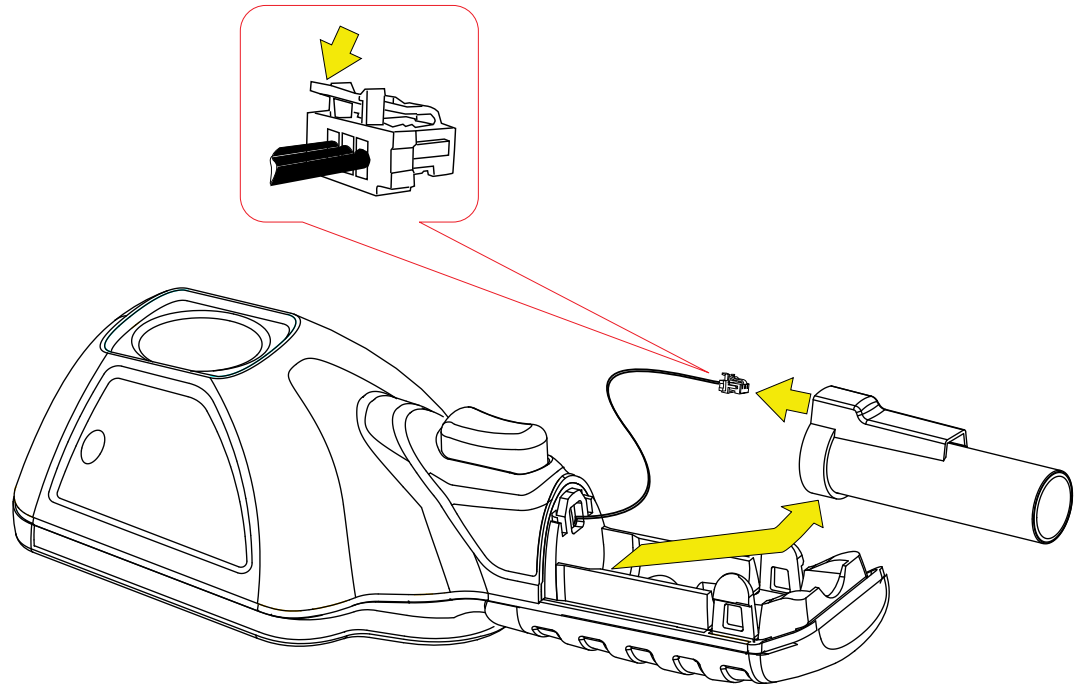

Figure 5-3
2. Carefully lift out the battery pack, then press down on the battery lead connector release tab and remove the connector from the battery pack (Figure 5-3).